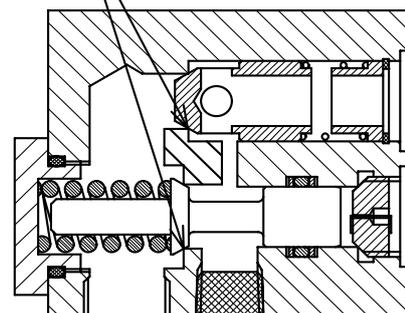
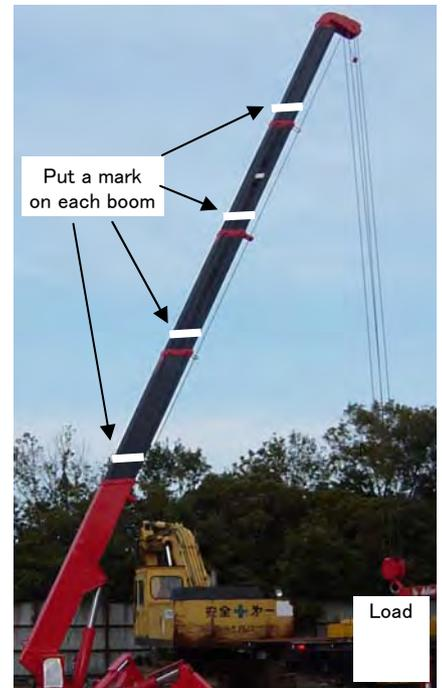

Fig3
Fig1
(1) Preparation before inspection
- ① Raise booms to an angle of approx. 60° .
- ② Put a mark on the rod with a felt pen (refer to Fig. 1).
- ③ In order to release pressure remained in the derrick system, stop the engine and shift the manual lever for raising/lowering of booms.
(2) Starting inspection
- ④ Remove the lowering hose to check if oil overflows continuously out of the cylinder port of lowering side. At the same time, check also that how far the rod shifts. If no oil flows out of the port of lowering side, the cylinder is normal.
- ⑤ Next, remove the raising hose, and if oil overflows continuously out of counter-balance valve port of raising side, there may be faulty on the seat surface of counter-balance valve (refer to Fig. 3). In addition, check how far the cylinder sinks simultaneously.
- ① Allow booms to be horizontal and extend them fully to put a mark on each boom section (refer to Fig. 1).
- ② Raise booms to their maximum to sling a load.
- ③ In order to release pressure remained in the telescoping system, stop the engine and shift the manual lever for telescoping booms.
- ④ Remove the retraction hose to check if oil overflows continuously out of the cylinder port of retraction side. At the same time, also check that which boom section sinks how far to grasp condition of booms as a whole. If no oil flows out of the port of retraction side, the cylinder is normal.
- ⑦ Raise booms to their maximum to sling a load.
- ⑧ In order to release pressure remained in the telescoping system, stop the engine and shift the manual lever for telescoping booms.
- ⑨ Remove the retraction hose.
(4) Inspection of tele2
- ⑩ Allow booms to be horizontal and extend them fully to put a mark on each boom section (refer to Fig. 1).
- ⑪ Raise booms to their maximum to sling a load.
- ⑫ In order to release pressure remained in the telescoping system, stop the engine and shift the manual lever for telescoping booms.
- ⑬ Remove the retraction hose.